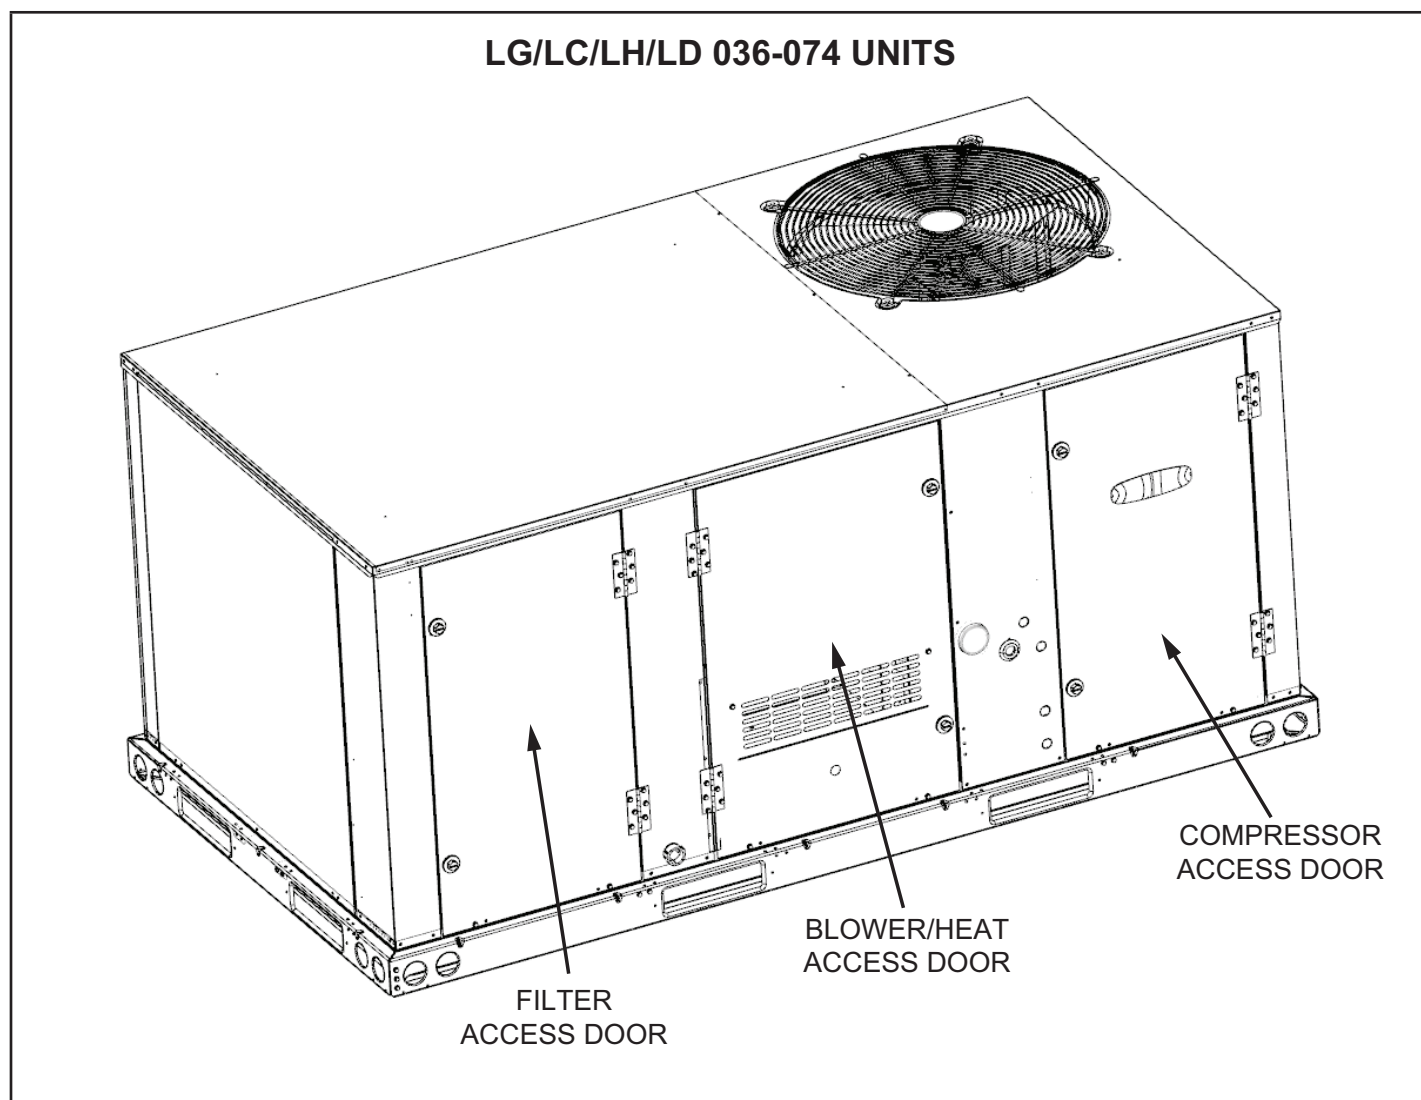

FIGURE 2
- 1 - Open compressor access door. Refer to FIGURE 2.